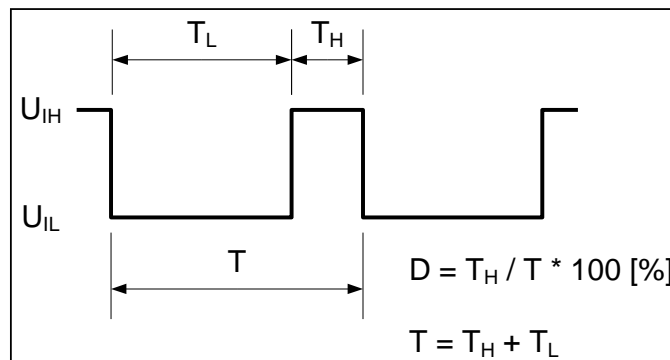

Figure 1
- PWM control is "POSITIVE logic duty cycle definition" (See Figure 1, below).